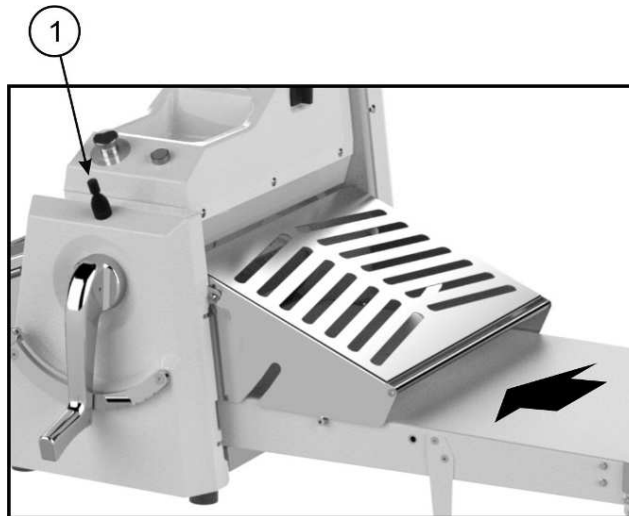

Figure 8
**IMPORTANT! Check phase connection before starting up the machine. Start the machine as described in chapter 3.4.3 and then move the joystick to the left (Ref. 1 Figure 8): the belt should start moving from right to left (as illustrated in the figure)**